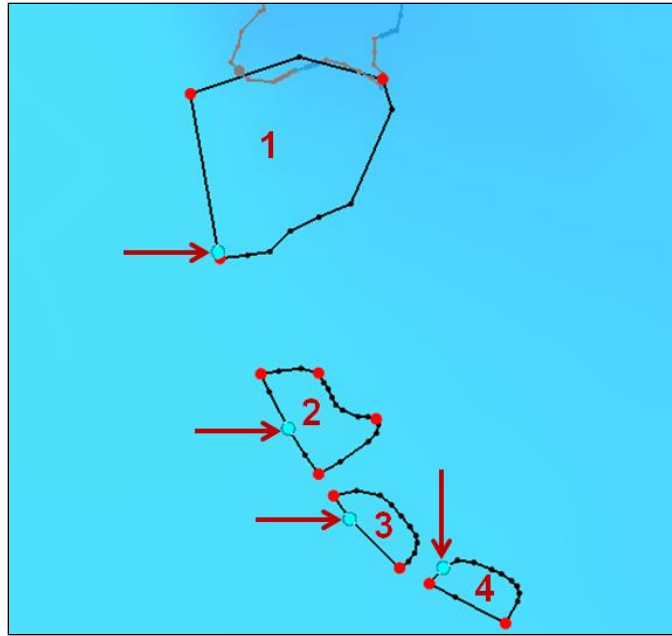

Figure 4 Original points to be converted to vertices
6. Using the **Select Feature Point**  tool, use the *Shift* key to select the four original nodes. (Figure 4)
1. Using the **Select Feature Polygon**  tool, double-click on the northern polygon (polygon 1 in Figure 4) to open the *EWN Polygon Properties* dialog.